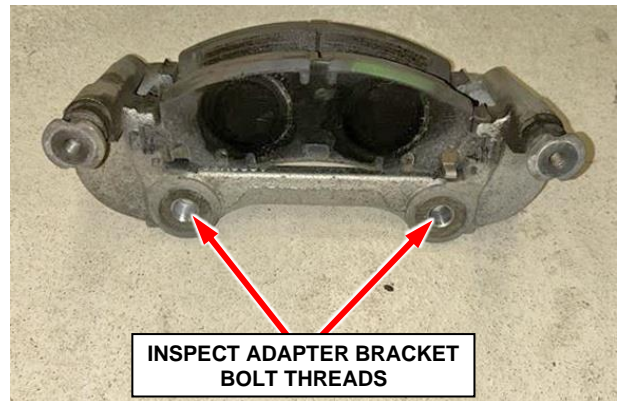

Figure 4 – Brake Caliper Guide Pins
6. Remove the brake caliper adapter bracket with brake pads from the brake rotor and steering knuckle (Figure 4).
7. Inspect the mounting bolt threads in the adapter bracket for any damage (Figure 4).